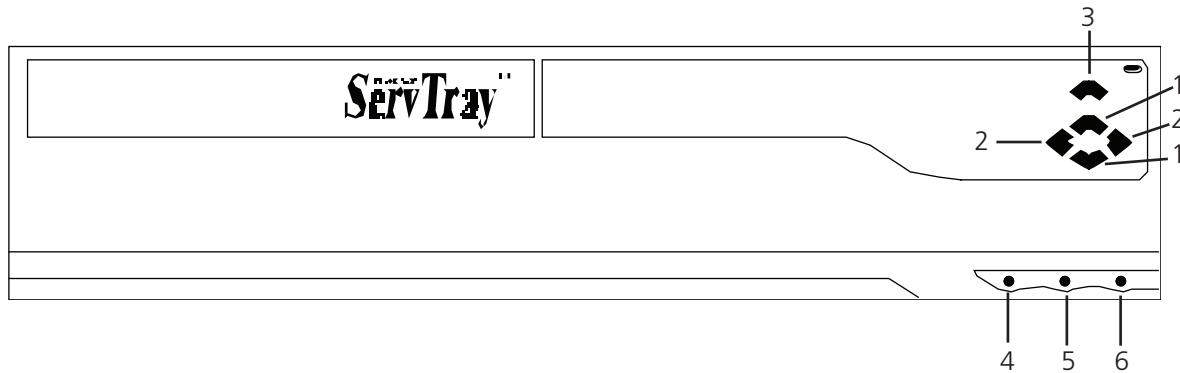

Figure 4-1. The ServTray components.
Once the ServTray is installed and connected to a PS/2 CPU or ServSwitch, it's ready for operation. Control the unit via the buttons on the LCD panel (labeled 1 and 2 in Figure 4-1) and the LCD panel power switch (labeled 3 in Figure 4-1). Monitor the status via the keyboard status keys (labeled 4, 5, and 6 in Figure 4-1).
2. Use the LCD panel adjustment buttons (2 in Figure 4-1) to adjust settings for the LCD panel.
3. Switch the power to the LCD panel on or off via the power switch (3 in Figure 4-1).